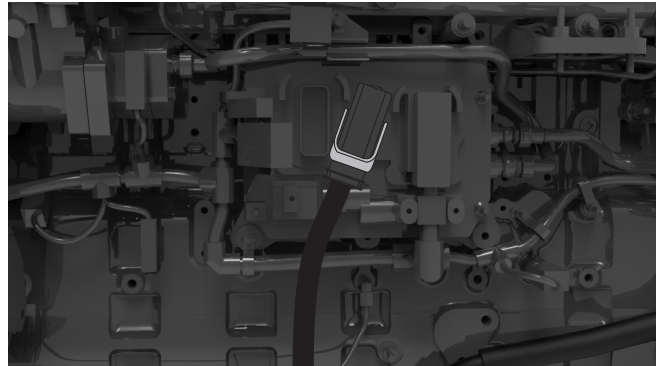

Figure 5-1-3 Disconnect ECM (Electronic Control Module)
- Disconnect ECM (Electronic Control Module). The ECM connector is located on the right side of the engine (see Figure 5-1-3).